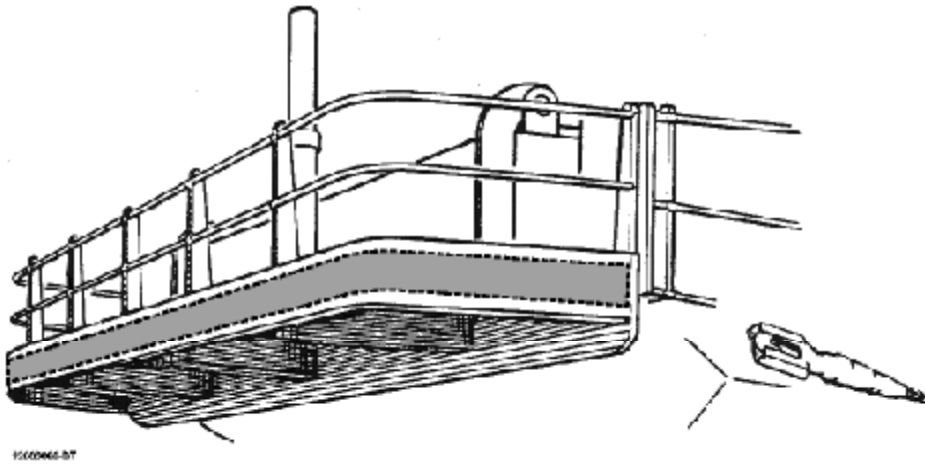

Figure 2-21. M1A1/M1A2 Fastener Tape - Bustle Rack.
- Apply fastener tape across the rear of the bustle rack, ending at the back right side of the bustle rack. (See Figure 2-21.)